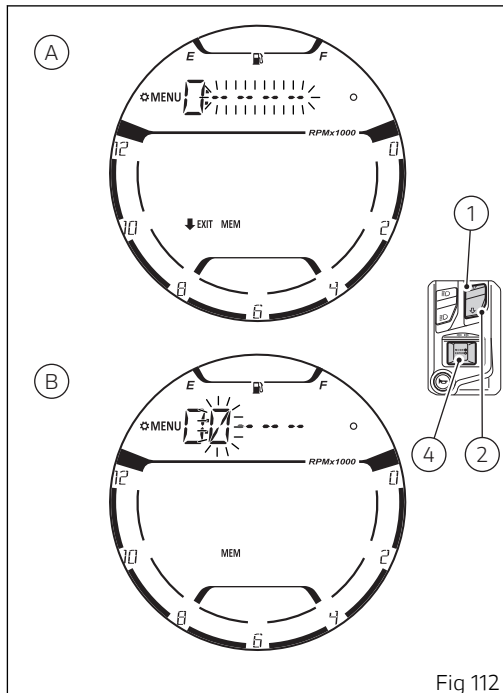

Fig 112
- If the PIN is not correct, the instrument panel displays "ERROR" flashing for 2 seconds and then highlights the four dashes "- - - -" for the old PIN to allow you to try entering the code (A, Fig 112) again.